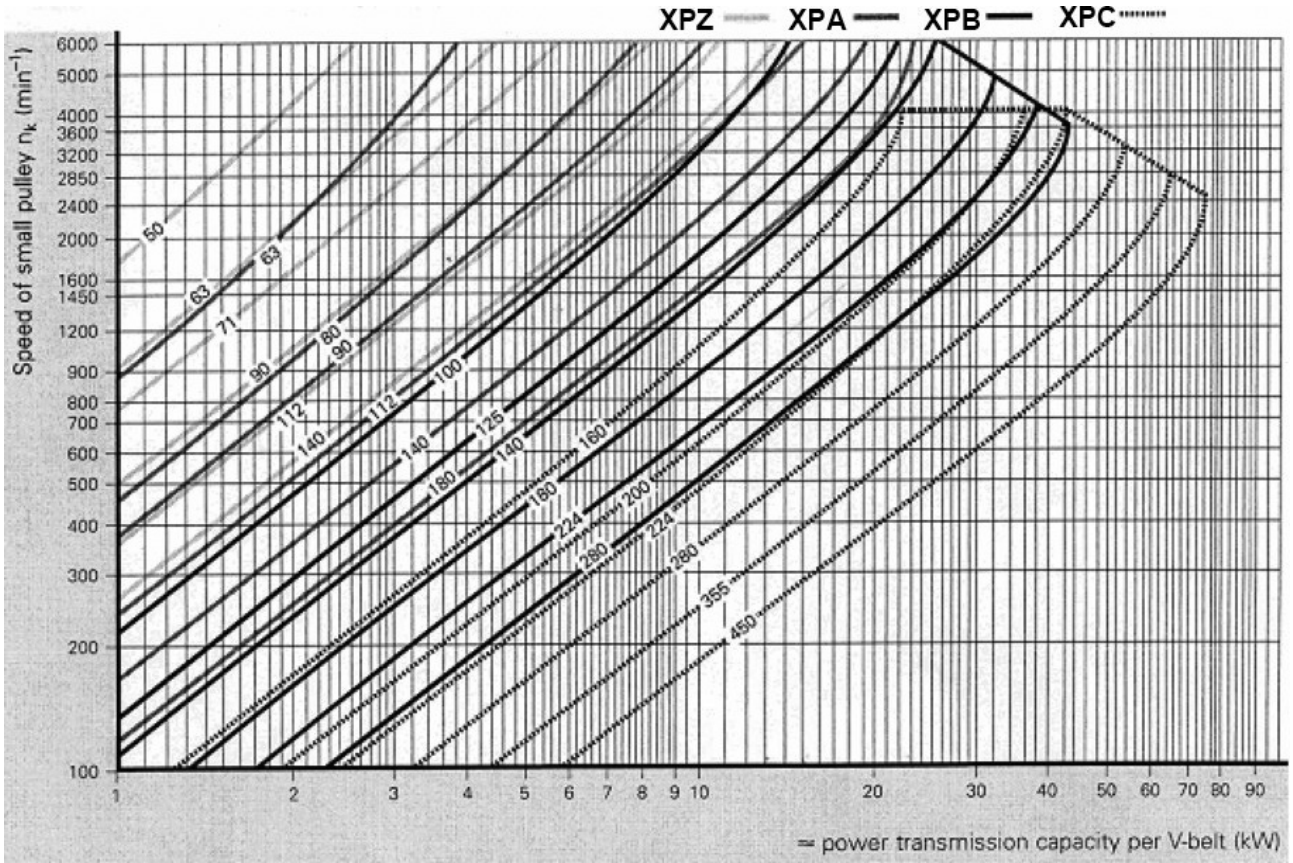
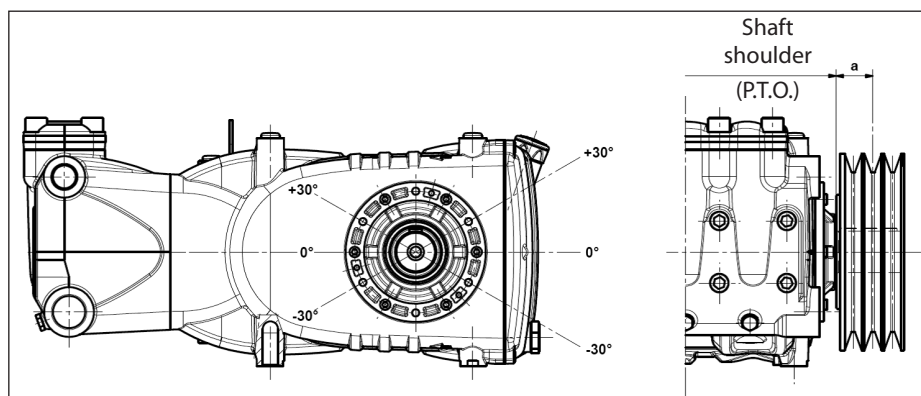

Fig. 7
Fig. 10
For these pump models, we recommend use of 3 XPB belts (16.5x13 serrated). Use an XPC profile only for long durations. Both the characteristics and transmissible power of each belt can be verified in the diagram in Fig. 7, in relation to the number of rpm normally declared by the manufacturer. Minimum duct pulley diameter (on pump shaft): ≥ 160 mm. The radial load on the shaft must not exceed 4500 N (value necessary for Layout definition). The transmission is considered adequate if the load is applied to a maximum distance $a = 50$ mm from the shaft shoulder (P.T.O) as shown in Fig. 10.
- b) Use high performance belts – for example **XPB** instead of **SPB** – as a lower quantity of belts for the same transmitted power may be necessary and a consequent shorter resulting distance compared to the shaft shoulder (P.T.O) "a" of Fig. 10.